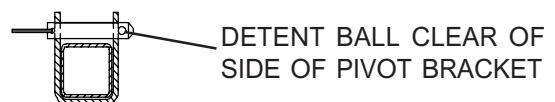

Figure 2-8. Correct Position of Locking Pin
1- **Guardrail Locking Pin With Lanyard** - To fold the guardrail system down, remove the locking pin at each pivot point and lower each guardrail. To raise the guardrail system, swing up each guardrail and lock in place with the locking pins ensuring that the detent ball of each pin is clear of the side of the pivot brackets. (Figure 2-8.)
3. If equipped with a fold-down guardrail system, swing up and lock all guardrails in place with locking pins. (Refer to Figure 2-8.)